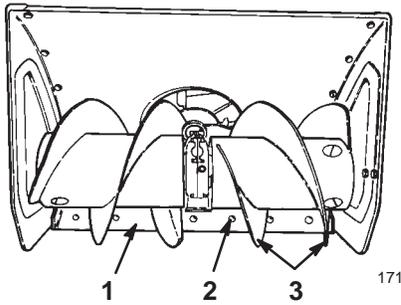

Figure 28
- Support the **auger blades** so that they are at least 1/8 inch (3 millimeters) off the ground (Fig. 28).
- To adjust the scraper, loosen the carriage bolts that secure the scraper to the auger housing (Fig. 28), level the scraper, and tighten the carriage bolts.